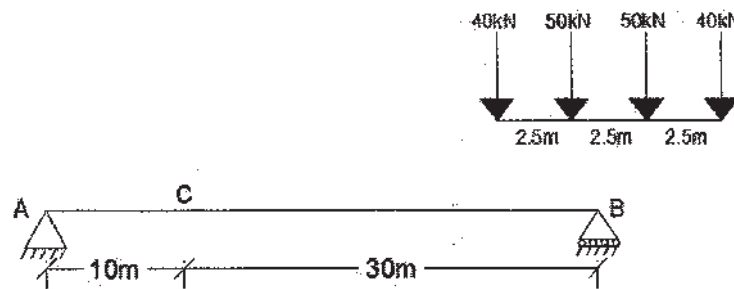

Fig. 6
- Q. 19. The beam is loaded with concentrated loads as shown in Fig. 6. If the loads are moving from left to right, compute the maximum moment at section C. 10